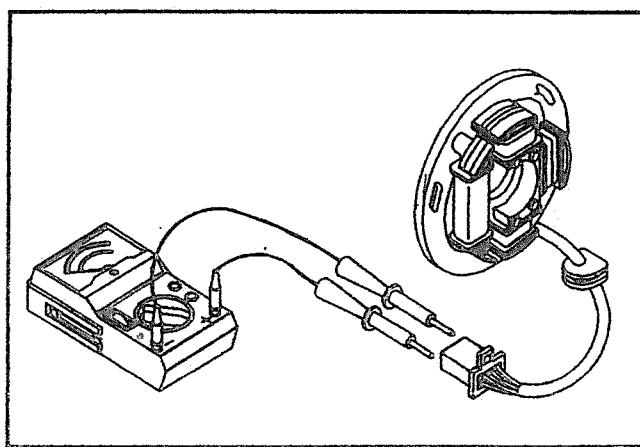

Fig 5.8
Use a Multimeter and check both charging and lighting coils for continuity (fig 5.8)
- Set the multimeter knob to DC Ampere range 10 A (fig 5.8)
- Connect the terminal as shown in (fig 5.8)